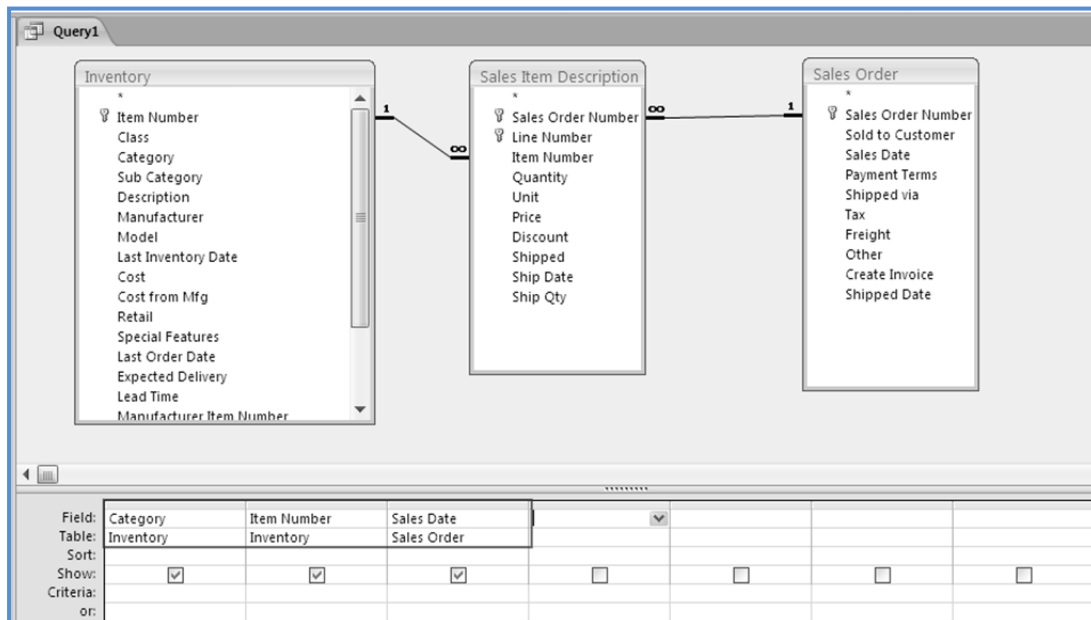

Fig. 1.2.53: Select the required columns
3. Select the columns *Category* and *Item Number* from *Inventory* Table and drag them to the columns tab. Similarly, select column *Sales Date* from table *Sales Order* and drag it to the columns tab. The query window appears as in Fig. 1.2.53.